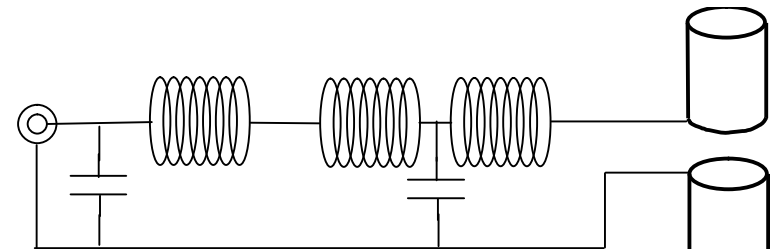

FIGURE 3 – L+T NETWORK
B. L+T Network: The second iteration used an L+T network as depicted in Figure 3. Typically, the L network transforms from 50 to 25 ohms with an associated -45 degree phase shift. The T network then transformed from 25 ohms to match the impedance of the antenna and provides an additional -45 degree phase shift. In this network the capacitors may be low voltage but must have high RF current capability. This network is very sensitive to phase shift in the transmitter because it is essentially a series network where phase is concerned.
PHYSICAL DETAILS: Following an introduction to the various components (both real and imaginary) of the EH Antenna, it is now appropriate to look at the physical construction. With reference to Figure 3, there is a sketch showing the configuration of the “STAR” version.